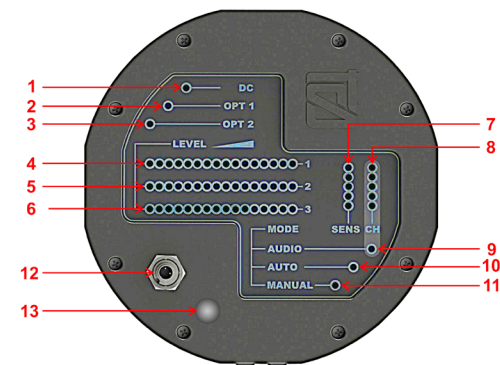
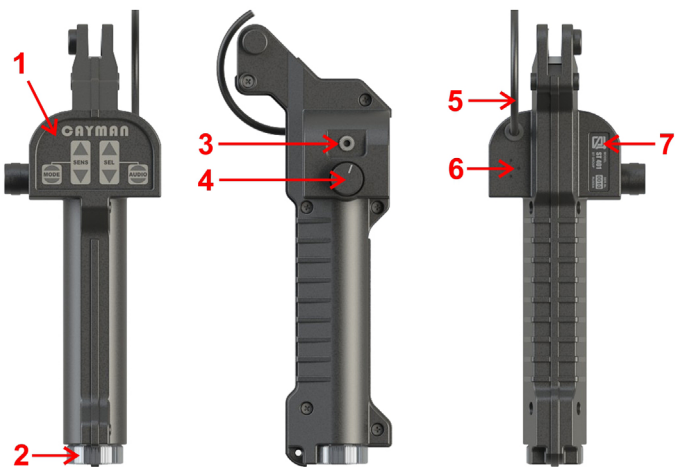
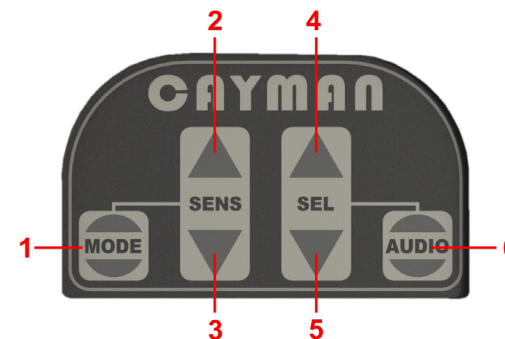
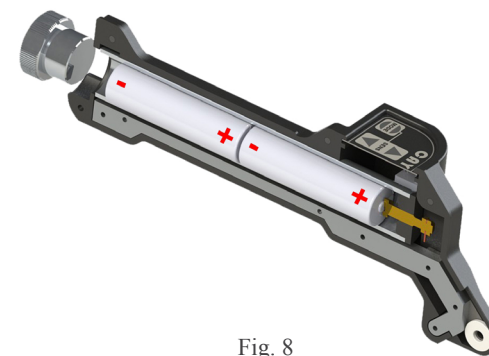

Fig. 4
Fig. 6
Fig. 7
Fig. 8
On the surface of antenna, facing the operator, are an indicator panel, a socket for the control-and-power cable, and a micro-USB port (Fig. 4). The numbers in Fig. 4 stand for the following:
The handle of *ST 401 'Cayman'* comprises a battery compartment, a control panel, and mechanical parts that form the bearing structure. The appearance of the handle and the location of its components are shown in Fig. 6.
In the upper part, the handle is equipped with the control panel (Fig. 6: 1) that has a 6-key membrane keyboard (Fig. 7) with the following key assignments:
The handle has a battery compartment for two rechargeable batteries (type 18650). Those are enclosed with a screw cap (Fig. 6: 2) that also serves as the negative contact. *When inserting the batteries, please observe polarity, as shown in Fig. 8.*
Fore of the handle are the headphone socket (Fig. 6: 3) and the power-on & volume control button (Fig. 6: 4). In the lower part there are a speaker grid and an outlet for the control-and-power cable (Fig. 6: 4) whose other end has an angular connector, to be plugged into the socket on the antenna head (Fig. 4:12).
The ID plate location is shown in Fig. 6 (7).
Unscrew the battery compartment cap (Fig. 6: 4). Insert the batteries observing the polarity and screw the cap all the way back in.
Make sure the power switch (Fig. 6: 4) is in its leftmost position (OFF). Plug the power-and-control cord into the connector on the antenna module (Fig. 4: 12). Activate the device by rotating the switch clockwise. The device status will be displayed as described in *Table 1* below.
Upon activation of the device one or more segments of the signal level gauges (Fig. 4: 4–6) may light and go out spontaneously. This would mean that the device should need to be adjusted to the electromagnetic environment using the adaptive mode.
To activate this mode, press and hold for 3-4 sec the MODE button (Fig. 7: 1) on the control panel. The antenna must be directed away from large metal objects and anything that is certain to contain nonlinear elements (it is often best to point the antenna at either the floor or ceiling).
For that purpose, place Test Dummy #1 in an area free of responses from nonlinear elements and reflecting surfaces. Press the SENS button (Fig. 7: 3) repeatedly to set the receiver gain at 3 lit segments of the SENS indicator, which corresponds to medium sensitivity.
The gain can be varied discretely with an 8dB increment, over 5 values in a 40dB range; each increment corresponds to one SENS indicator LED. Thus, if all five are lit, the gain is equal to 40dB, providing maximum detection range. If all are dimmed, the gain is 0dB, with minimum detection range. The gain can be brought up or down a step by a single pressing of either SENS button (Fig. 7: 2 and 3).
Levels of return signals from a target area are shown in the three LEVEL multi-segment gauges (Fig. 4: 4–6).
Frequency combinations can be switched over with SEL buttons (Fig. 7: 4 and 5).